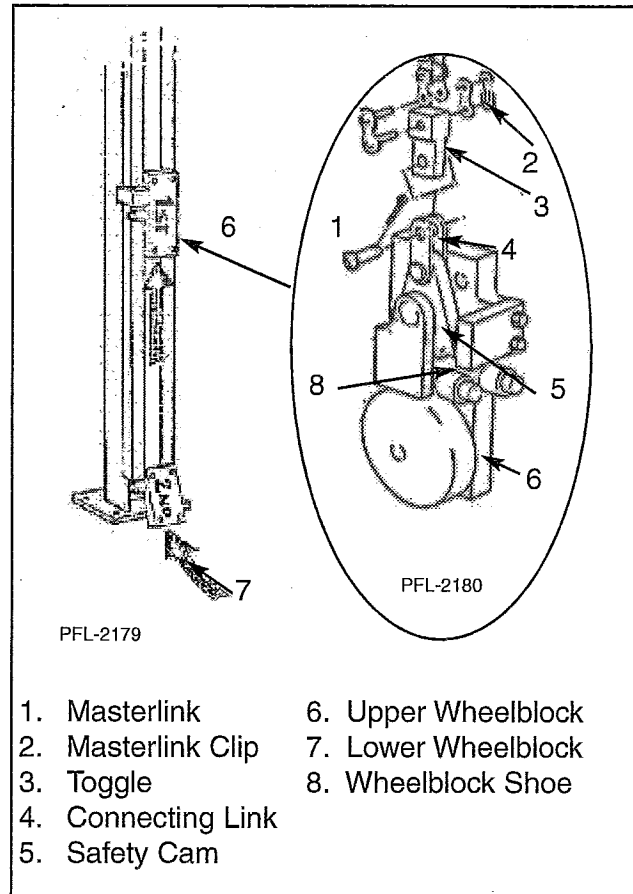

Figure 7B
1. Remove all 5/8" hex head screws from the four wheelblocks. Insert wheelblocks in the columns through the notch in the guide angle at the base of the beam. The upper wheelblocks are longer and are installed with the shoe toward the top of the column. Insert lower wheelblock after upper wheelblock has been inserted. See Figure 7B.
2. **Make sure masterlink clip in each upper wheelblock faces the carriage, not the inside of the columns. See Figure 7B.**